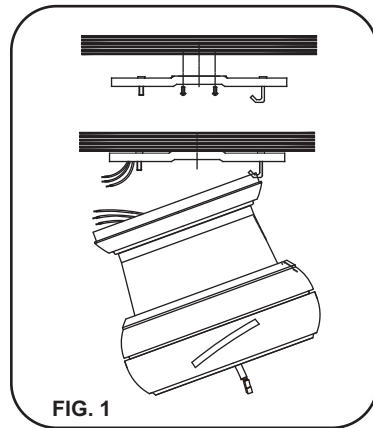

FIG. 1
Step 1. Attach the mounting bracket to the outlet box with two screws and washers provided. Make sure the bracket is tight and secured. (Fig. 1)
Step 2. Lift fan into position by hanging the motor assembly onto the hook from the ceiling mounting bracket allowing it to hang freely. (Fig. 1)